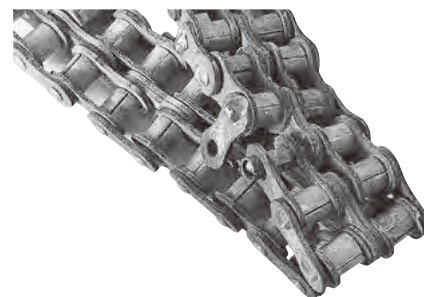

Fig. 31 Corrosion of stainless steel roller chain
- 6) There are also circumstances where even stainless steel roller chain will corrode. Fig. 31 shows an example of chain that was used in a plating apparatus. The chain fell to pieces within one month due to the effects of the acid.